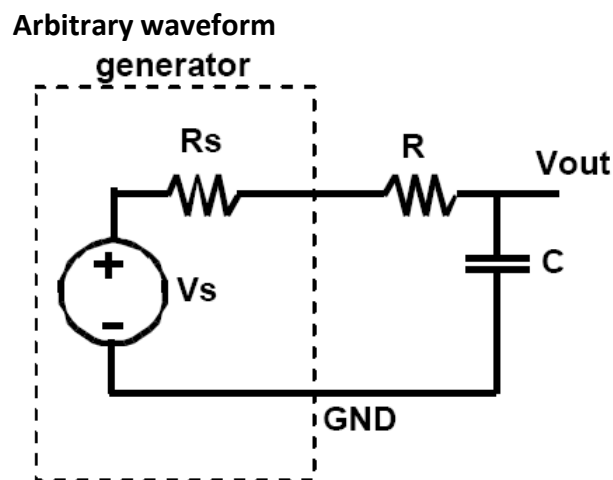

Figure 1. Simple RC circuit.
Figure 1 shows the first-order RC circuit whose step response will be studied in this lab.
The input signal to the circuit in Figure 1 is a perfect square wave with amplitude A (from 0 V to A), and period T where $T \gg RC$. You may also assume that $R \gg R_s$ (the internal resistance of an arbitrary waveform generator). Using only symbolic parameters (e.g. R , C , A ; not numerical values), derive the equations for the following quantities:
1. Build the circuit in Figure 1 using $R = 10 \text{ K}\Omega$ and $C = 0.01 \text{ }\mu\text{F}$. Set the arbitrary waveform generator to provide a square wave input as follows:
1. The more points you measure on a waveform, the more accurate the measured results but this also takes more time and increases the test cost. This is an important tradeoff in measurement accuracy and test cost. Given the circuit in Figure 1, ten data points per waveform were collected in section 7.2 item 7. Should you collect more or fewer than 10 points to extract a “good” estimate of the rise or fall time of the circuit (as defined above)? “Good” estimate means the estimated value is within 10% of the correct value (from computation or simulation).